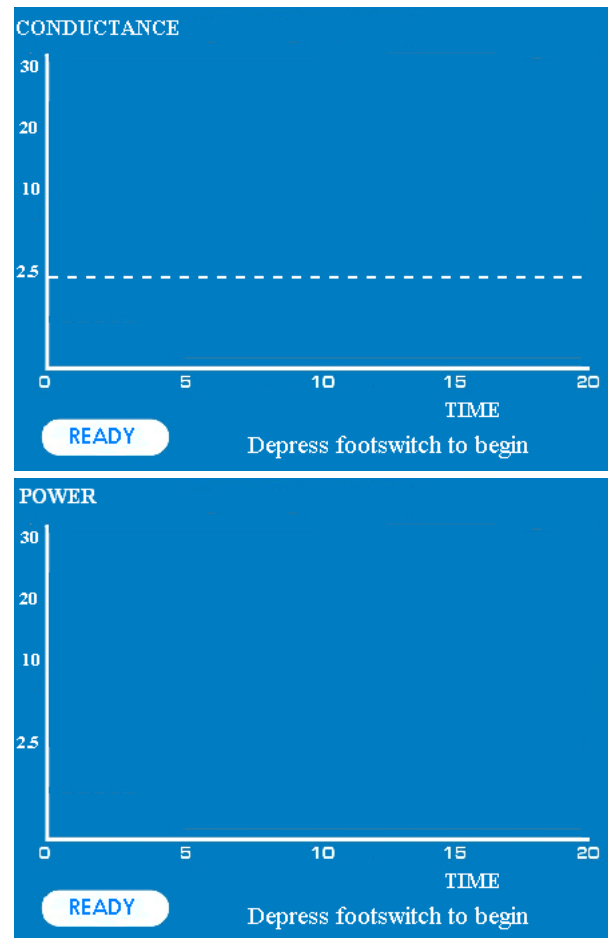

Figure 9: Tissue Conductance Display Graph (Synergy Clamps) and Power Display Graph (Isolator Pens) indicating READY Mode
11. Rotate the ASB Selector Switch to select the desired Handpiece. A green LED above the Handpiece receptacle indicates the Handpiece or its mode selected for activation. The Generator will transition to the READY mode (refer to **Figure 9**). The display screen and the green illuminated READY indicator show the Device is in READY Mode.